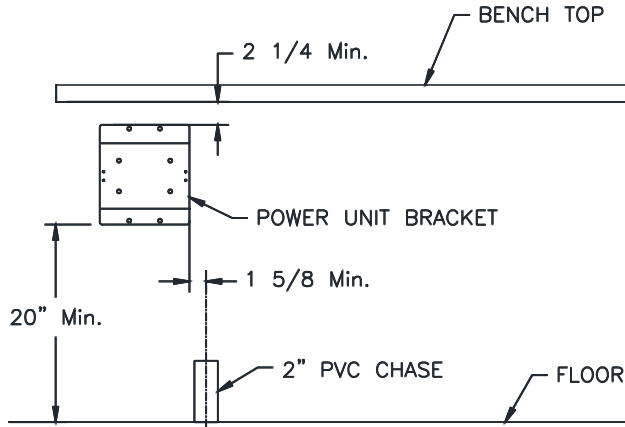

Fig 9 – Power Unit Bracket Location
15. Mount the Power Unit Bracket on the wall under the workbench using **Figure 9** as a guide for the minimum clearance dimensions. Use anchors (not Included) suited for the wall material. (Power Unit Weight: 63lbs)